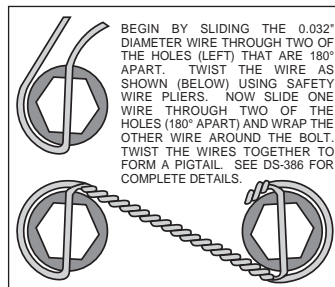

Figure 5. Safety Wire Diagram
•Orient the rotor (4) and the hat (5) as shown in Figure 1 and Photo 4. Attach rotor to hat using bolts (6) and washers (7). Using an alternating sequence, apply red *Loctite*® 271 to the threads, and torque to 140 **in-lbs**. For an added measure of security, the bolts may be safety wired using standard 0.032 inch diameter stainless steel safety wire as shown in Figure 5. Please refer to Wilwood's data sheet DS-386 (available at [www.wilwood.com/Pdf/DataSheets/ds386.pdf](http://www.wilwood.com/Pdf/DataSheets/ds386.pdf)) for complete safety wire installation instructions.